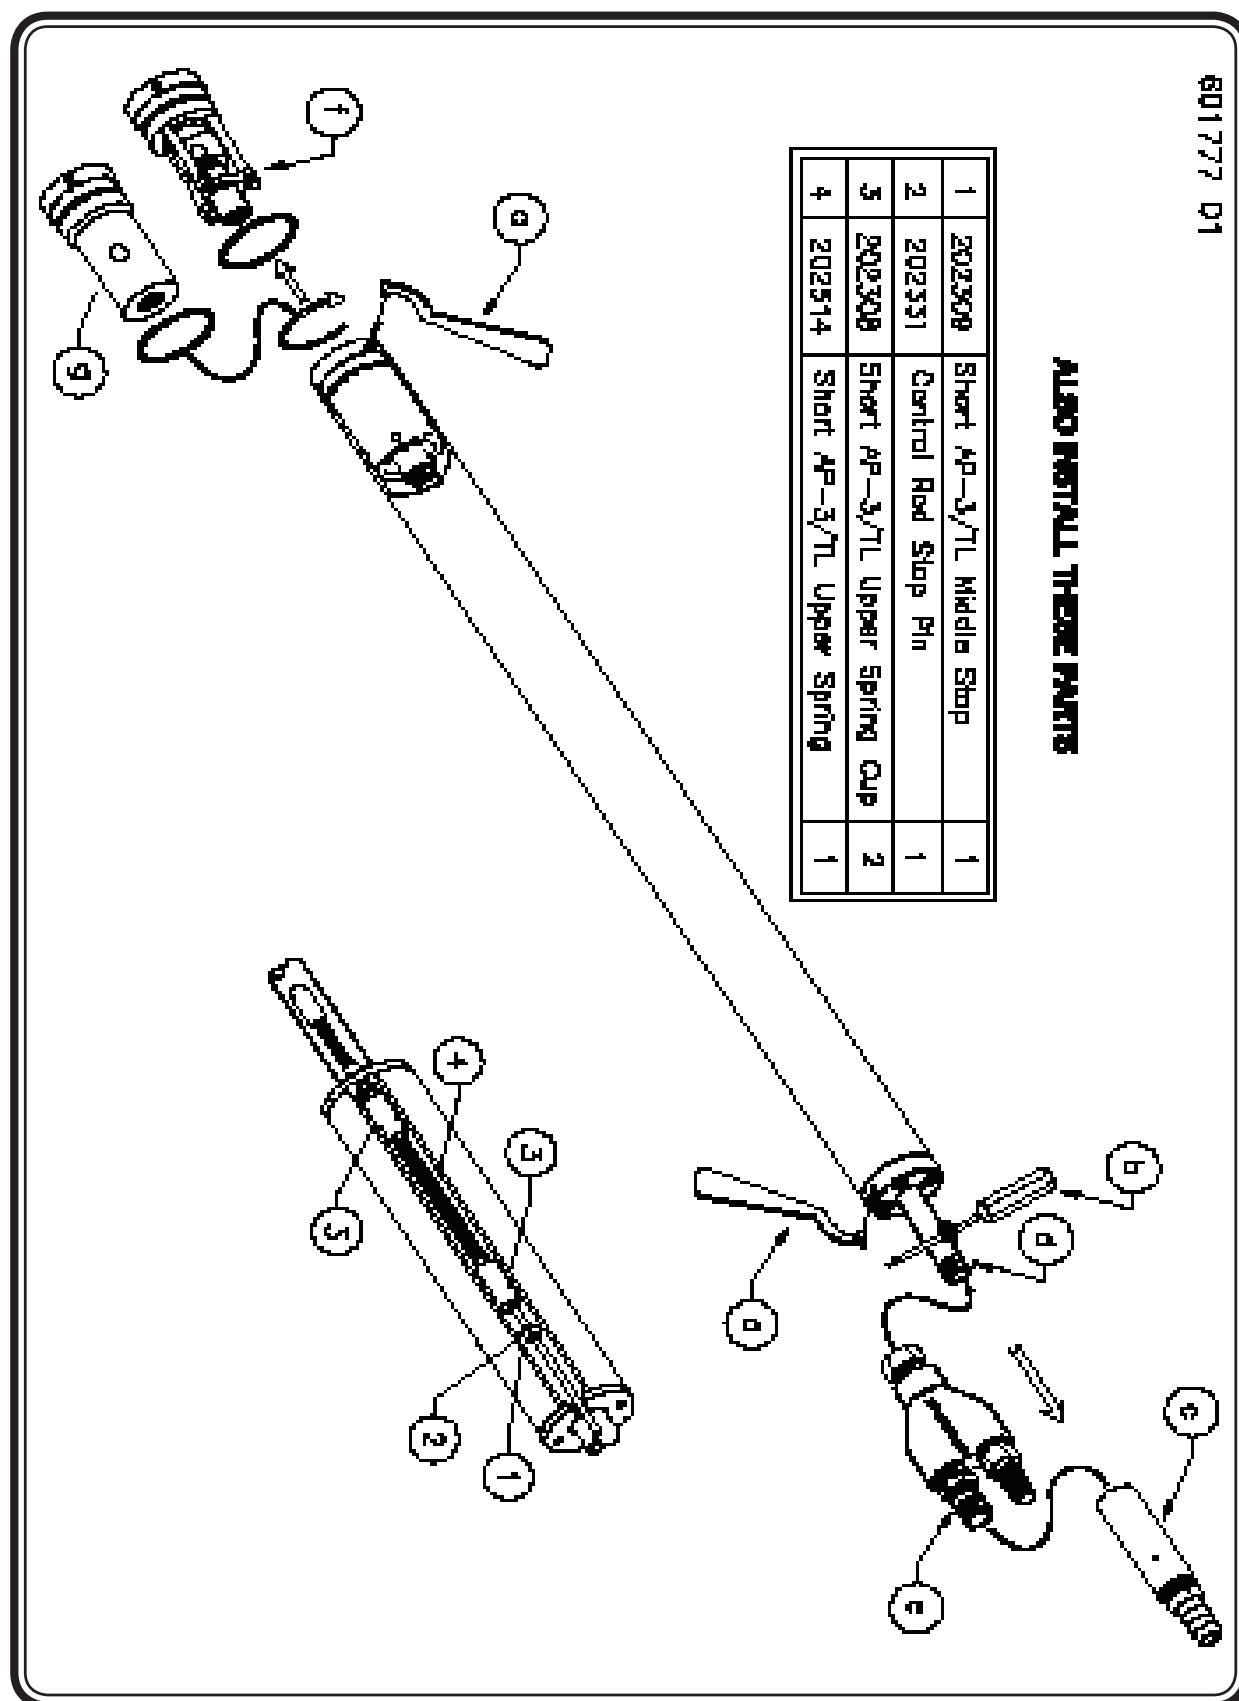

Figure 53 - Conversion from Short Bottom-Loading to Short Top Loading
1. Secure the pump with a spanner wrench “A” on the head or with a screwdriver “B” through the support ring. **(See Figure 53)**